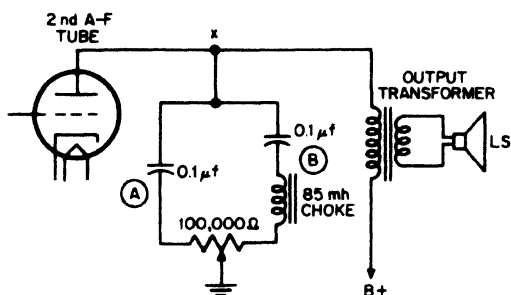

Fig. 25-3. Circuit showing a treble-bass tone control.
**Treble-Bass Tone Control.** Another type of tone control is shown in Figure 25-3. This tone control consists of two arms. In one arm, A, is a  $0.1 \mu f$  capacitor. In the other, B, a  $0.1\text{-}\mu f$  capacitor is connected in series with a choke coil of about 85 millihenrys. One end of each arm is connected to the plate of the final audio-frequency tube. Across the other ends, a 100,000-ohm potentiometer is connected with the sliding arm going to the ground.